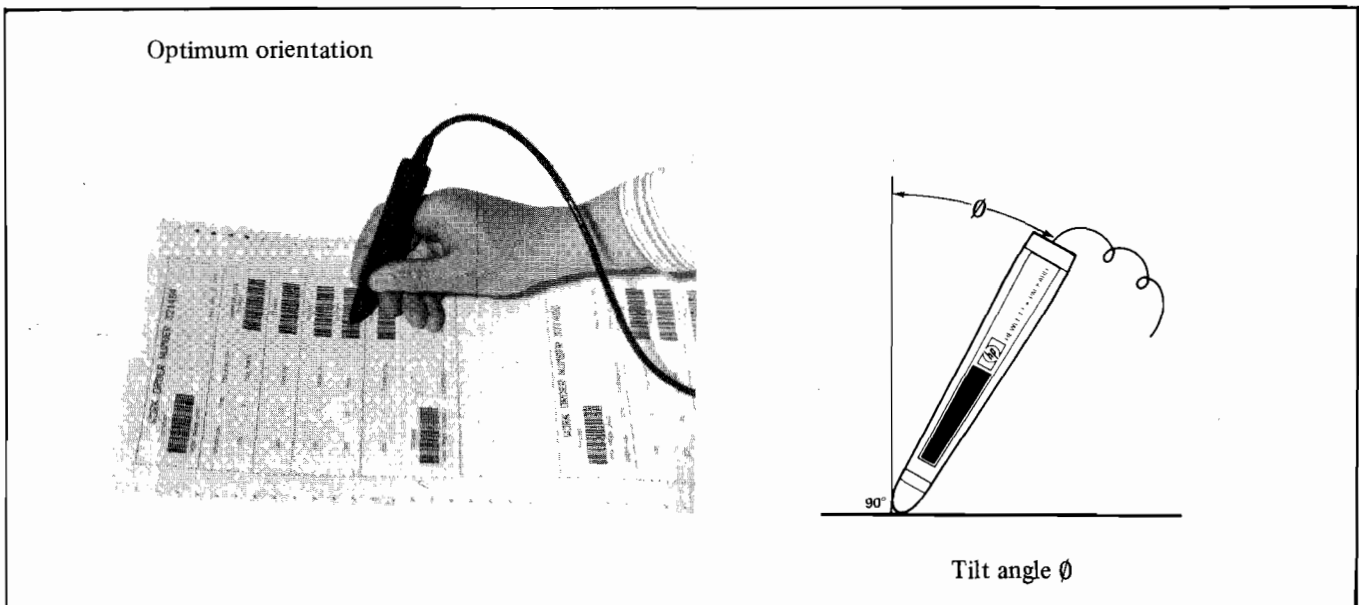

Figure 9-6 Bar Code Reader Wand Orientation
- 1) Orientation. To optimise performance, the wand should be held in the position shown in Figure 9-6, at an angle of tilt (\emptyset) of: